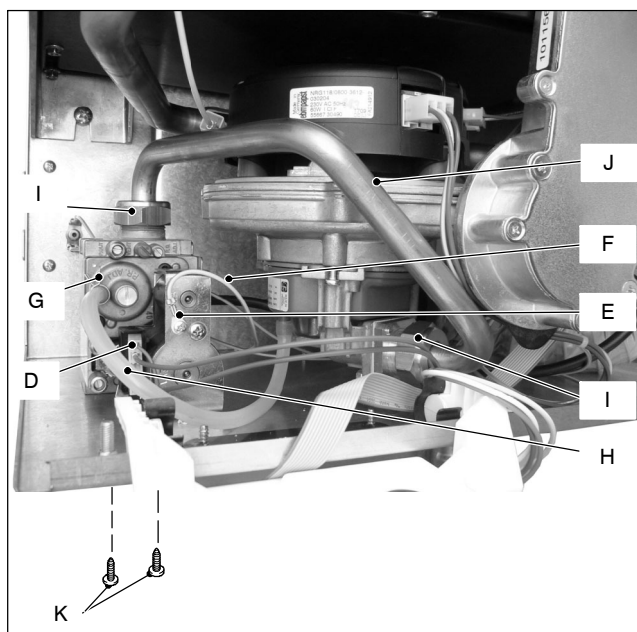

Fig. 8.12
- 2 Disconnect the connector *D* (Fig. 8.12).
- 5 Using pliers, remove the spring *G* and the rubber pipe *H* (Fig. 8.12).
- 6 Unscrew the connectors *I* (Fig. 8.12) and remove the pipe *J*.
- 7 Unscrew the screws *K* and remove the valve (Fig. 8.12).